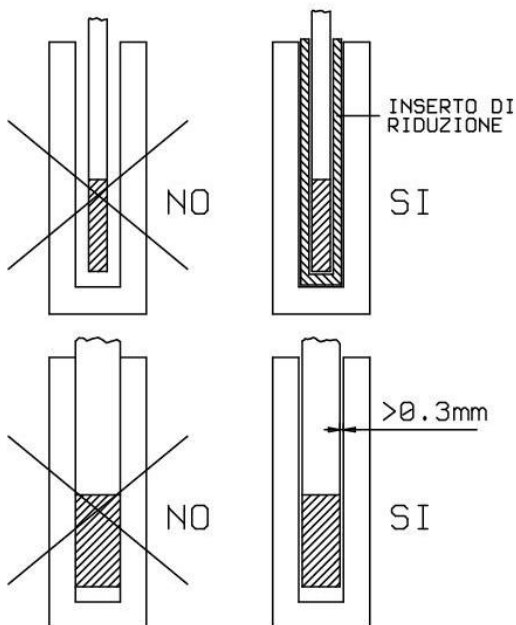

Fig.1
- If this is not possible, use the reduction wells with the above-mentioned tolerance (fig.1).